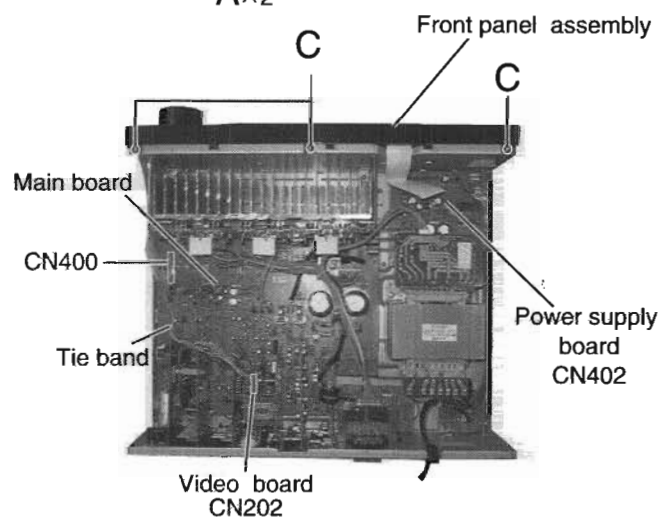

Fig.2
■ Removing the front panel assembly (See Fig.2 and 3)